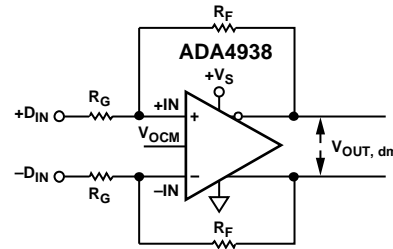

Figure 59. ADA4938 Configured for Balanced (Differential) Inputs
The effective input impedance of a circuit depends on whether the amplifier is being driven by a single-ended or differential signal source. For balanced differential input signals, as shown in Figure 59, the input impedance ( $R_{IN, dm}$ ) between the inputs (+DIN and –DIN) is simply  $R_{IN, dm} = 2 \times R_G$ .
**Table 10. Differential Ground-Referenced Input, DC-Coupled; See Figure 59**